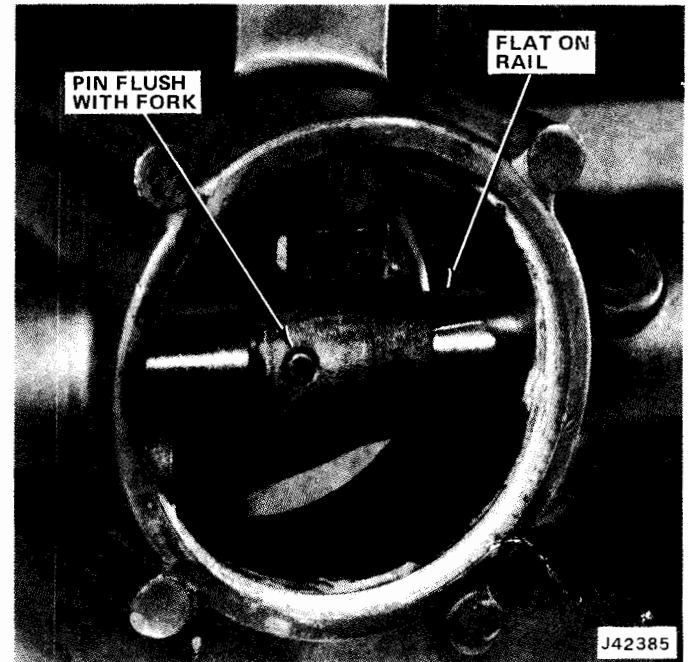

Fig. 8-36 Shift Rail
(16) Rotate shift rail until flat side is facing shift lever assembly and spring pin bore is aligned with spring pin bore in shift fork.
(17) Slide shift fork on shift rail to align spring pin holes.
(18) Install spring pin flush with outside surface of shift fork (fig. 8-36).